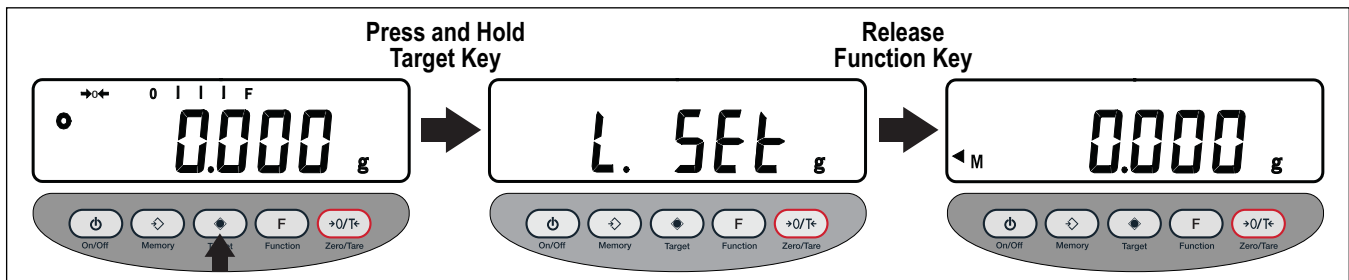

Figure 7-5. Enter Lower-Limit Setting
1. Press and hold **F** until **Func** displays, then release the key. The function setup mode is activated and the first parameter, **1. b.G. 1** displays (see Figure 7-5 on page 27).